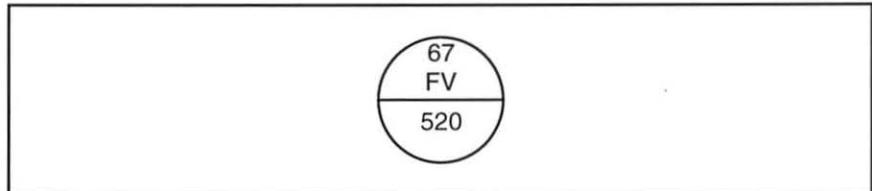

Figure 76. Instrument Tag
3. Identify the loop and area the device is in using the instrument tag in figure 76.